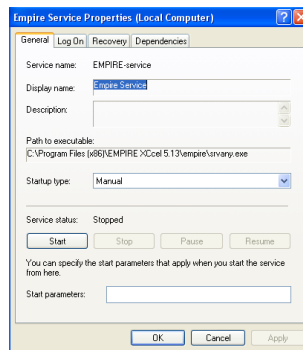

Figure 5.4.: EMPIRE XPU™ Service Properties
- Double left click on **Empire Service**, see Figure 5.4